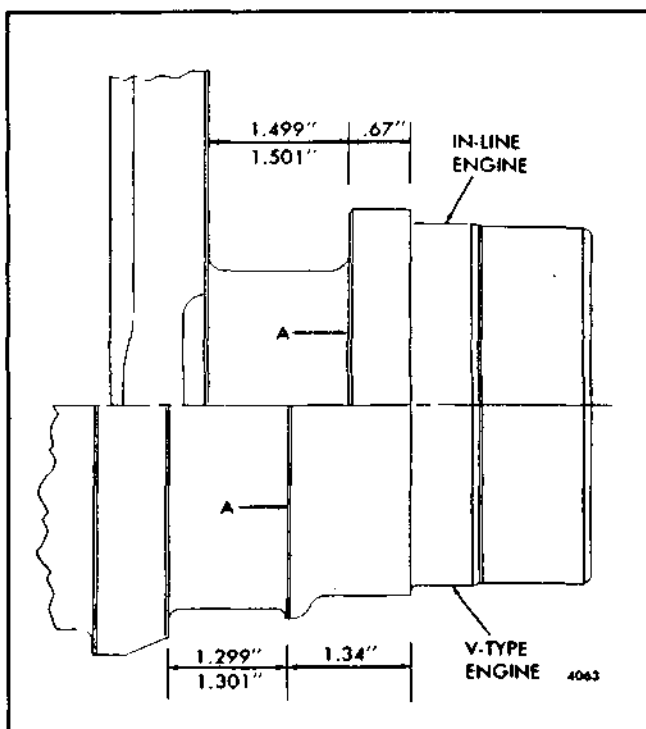

Fig. 10 - Standard Dimensions at Rear Main Bearing Thrust Washers-In-Line and V-Type Engines
**NOTE:** If the crankshaft thrust surfaces were reground, it may be necessary to install oversize thrust washers on one or both sides of the rear main journal. Refer to Fig. 10 and Table 2.